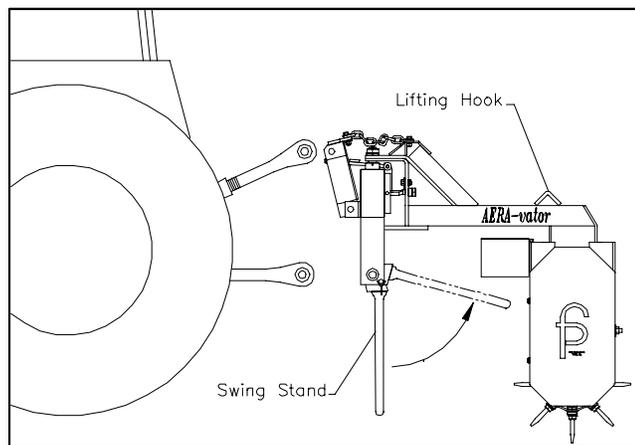

Figure 4. *Swing Stand/Lifting Hook*
- When not attached to the tractor, always use the lifting hook to hoist the machine for maintenance. (See Figure 4). Use extreme caution when using lifting hook because center of gravity is affected by additional attachments and the unit may shift rearward. Do **NOT** hoist the machine with the seeder attached.